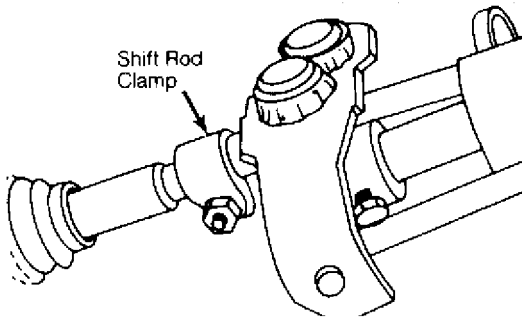

Fig. 4: Shift Rod Clamp Nut For Fox
2) Place gearshift lever in Neutral. Remove gearshift lever and shift boot. Loosen shift rod clamp nut. See Fig. 4.
4) Place gearshift lever in Neutral. From under vehicle, loosen shift rod clamp nut so shift finger slides freely on shift rod. See Fig. 4. Remove shift lever knob and rubber boot.